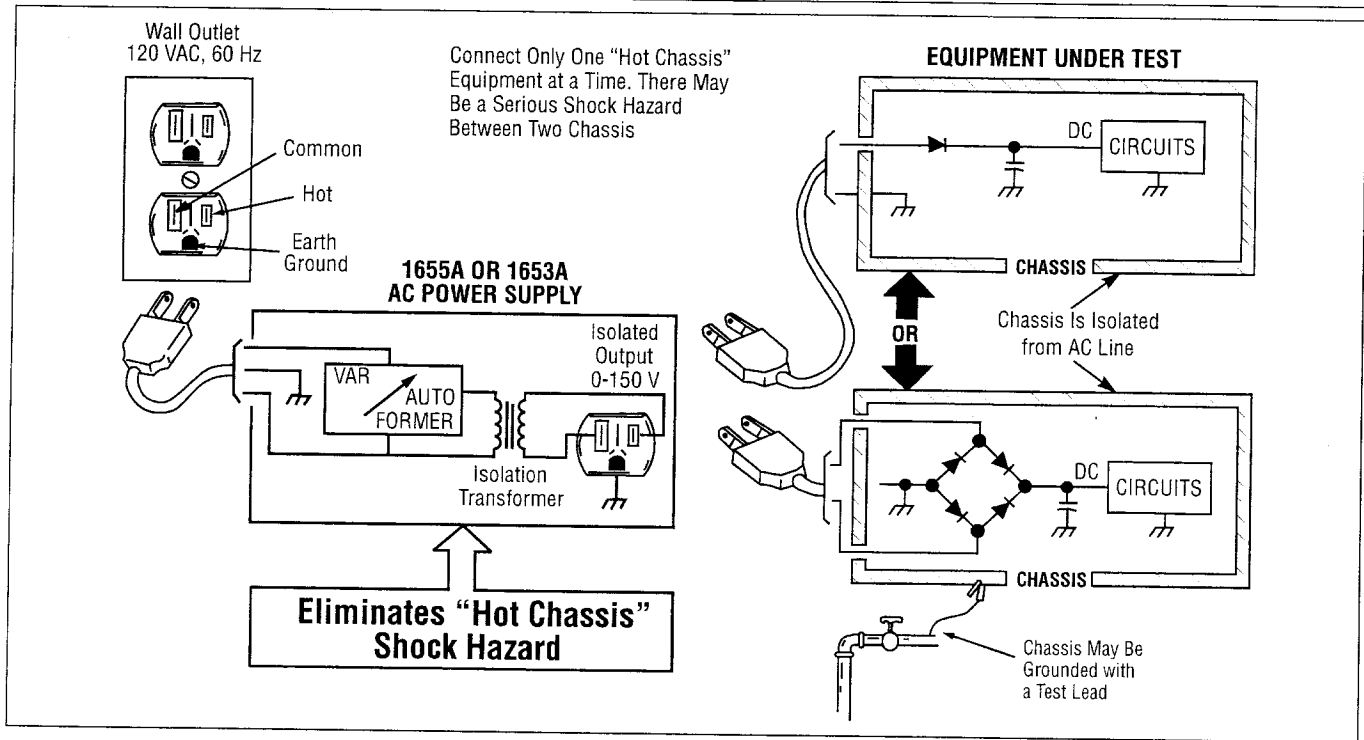

Figure 8. Eliminating the Hazard of Servicing Transformerless Equipment
As shown in Fig. 8, when an isolation transformer is used, the chassis of the equipment under test is electrically isolated from both sides of the power line. The chassis of the equipment under test may not be grounded by connecting a test lead from the chassis to a convenient earth ground (such as an earth ground terminal of the test equipment).
4. Connect the ac power plug of the equipment under test to the ISOLATED OUTPUT receptacle of the ac power supply. This provides the isolation as shown in Fig. 8.